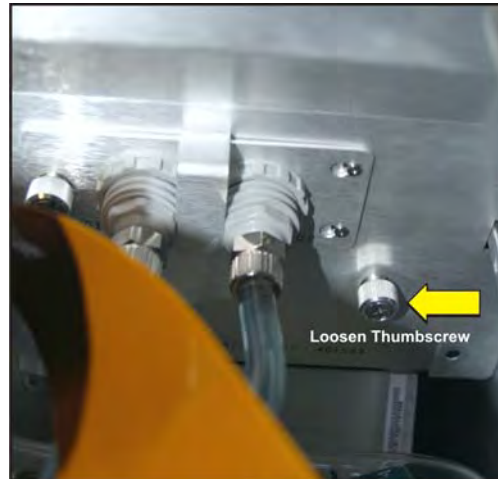

Figure 5-29 Remove IOS Access Plate
4. Remove the IOS access plate located on the security firewall by loosening the thumbscrew from the light engine compartment. **(Figure 5-29)**